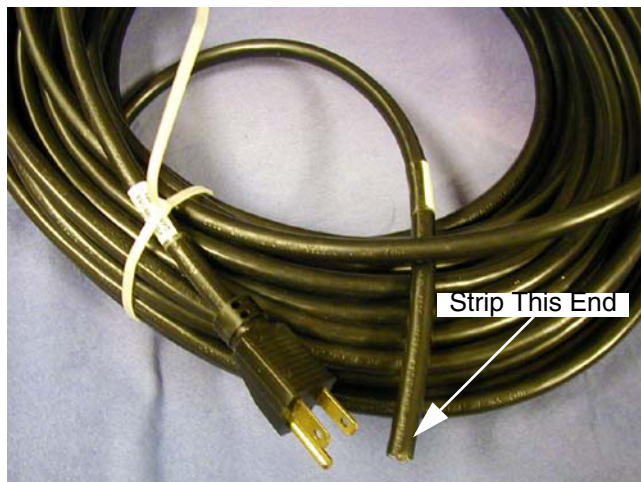

Figure 2-30 Power Cord for Octane-Based System (HP cord not shown)
- a.) Strip the power cord as shown in Figure 2-30.